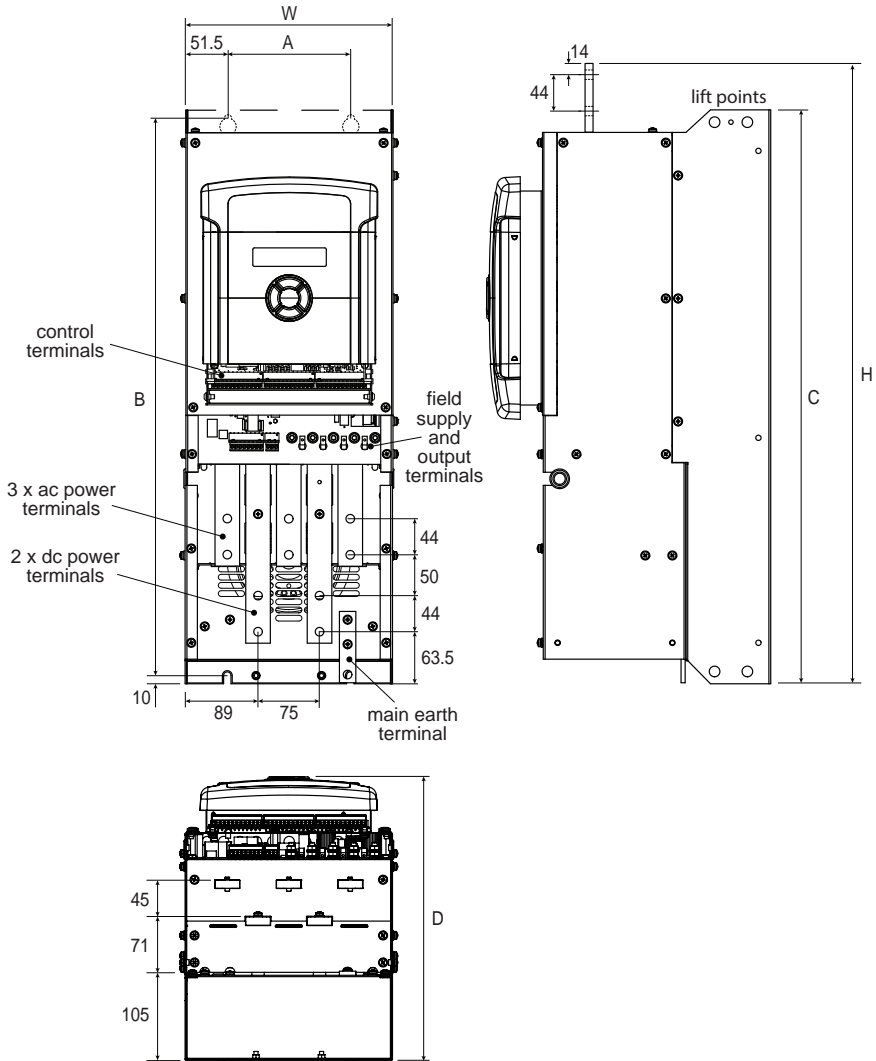

Figure 19 Frame 4 PL/X 275-440 dimensions
1. **The lower duct.** Fit this within the side cheeks, directly above the heatsink exhaust area. Refer to "Figure 19 Frame 4 PL/X 275-440 dimensions" on page 41 for fixing point drawing.